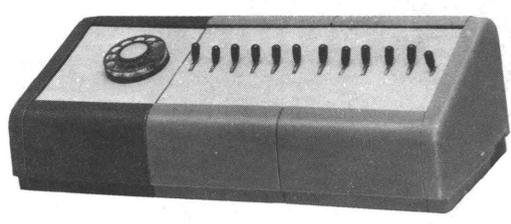

Fig. 48—F58010 (MD) Interconnecting Unit
**2.49 F58010 (MD) Interconnecting Unit**—A console approximately 5-5/8 inches high, 10-1/2 inches long, and 6 inches deep. It is equipped with two rows of six 540G keys and one 8C dial. It is used to provide 2-wire access between Bell System lines and a customer-provided PBX equipped with a cord switchboard and not arranged for supervision. It is used in association with a 15D KTU. (See Fig. 48.)